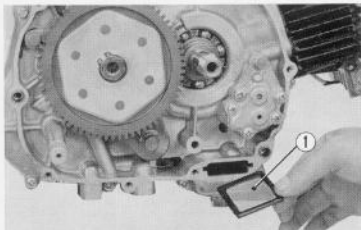

Fig. 5.13 Removing oil filter screen ① Oil filter screen
- b. Remove the right crankcase cover, pull out the oil screen and wash in gasoline. (Fig. 5.13)